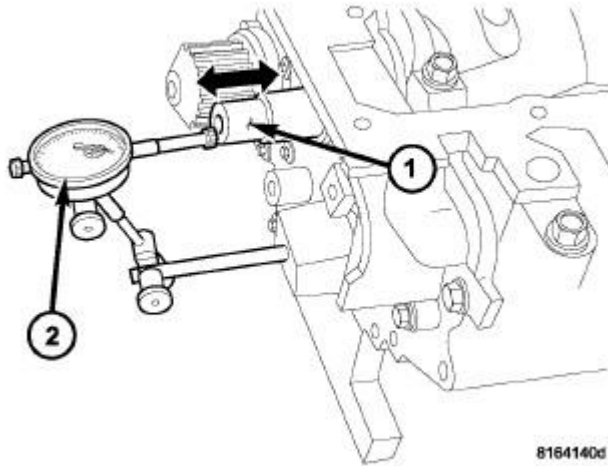

Fig. 189: Checking Crankshaft End Play Using Dial Indicator
1. Mount a dial indicator (2) to front of engine with the locating probe on nose of crankshaft (1). Refer to **Fig. 189**.